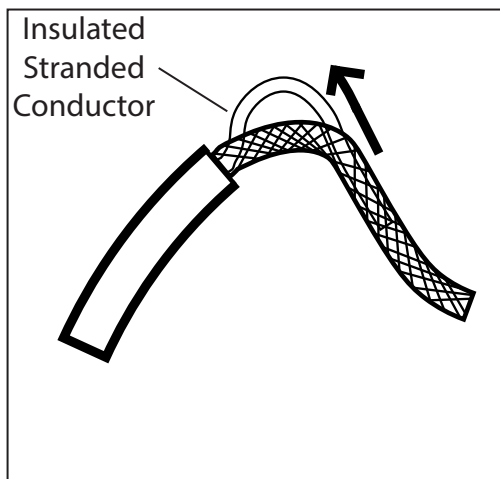

Fig. 3
4. Bend the cord to create an opening through the bunched-up portion of outer braided conductor, then pull out the inner stranded conductor (Fig. 3)